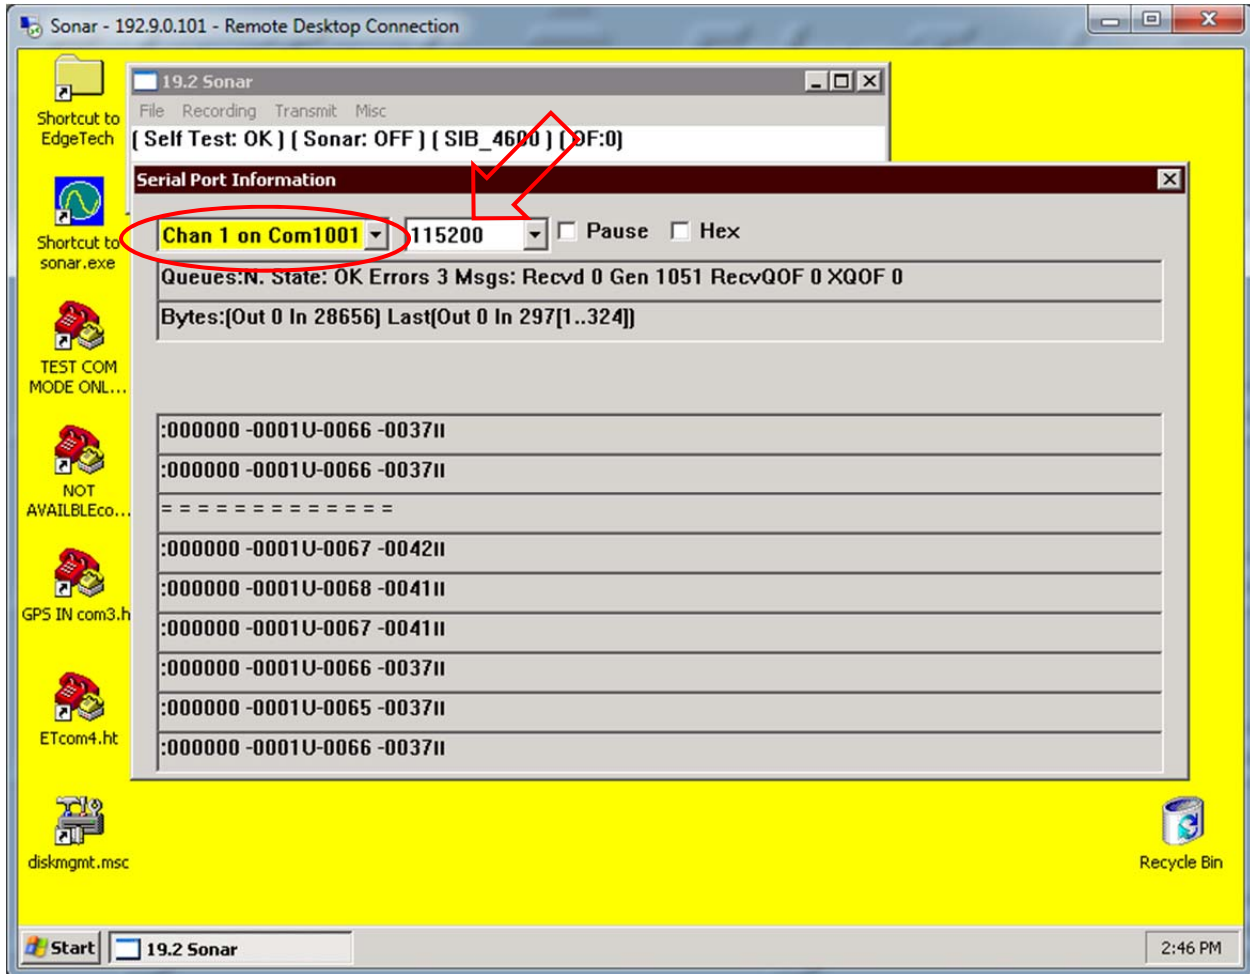

Figure 18: Serial Port Information Window
3. Check each COM port in the drop down menu to ensure data is coming through for each device and in the correct format (Figure 18).
Note: The GPS and MRU are interchangeable on COM1 and COM2 as long as the appropriate baud rate is set in the drop down menu next to the channel assignment in the Serial Port Information Window (Figure 18, red arrow).